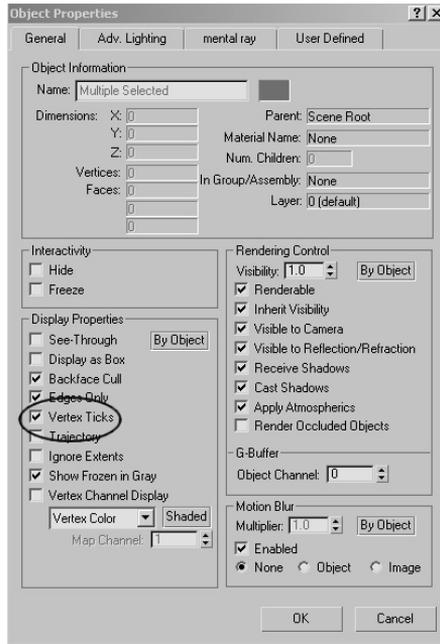

FIGURE 9.22 By turning *Vertex Ticks* on in the *Object Properties* dialog, you can see vertex ticks in the viewports without being in sub-object mode.
2. Using Select by Name, select duct_path, duct_shape01, and duct_shape02. Isolate the selection. This is another inverted U that will be used as the path, and a square and a circle, respectively, that will be shapes. Click Zoom Extents All to view all objects. With the shapes all selected, right-click in the Top viewport and choose Properties in the Quad menu. In the Object Properties dialog, Display Properties area, check Vertex Ticks (see Figure 9.22). This enables you to see the vertices of the selected shapes without being in sub-object mode.